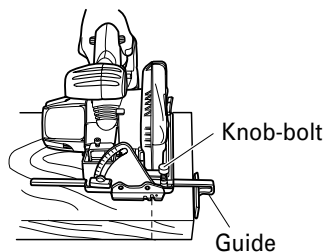

Fig. 10
3. Regulating the guide (Fig. 10)